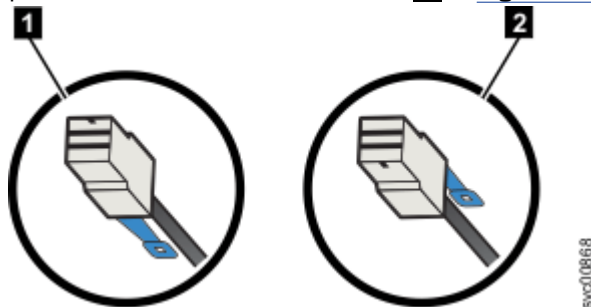

Figure 61. SAS cable connector orientation
- For Storwize V5000E control enclosures (and 2072-24F or 2072-12F expansion enclosures), the blue pull tab must be below the cable (1 in Figure 61 on page 71).
- For 2072-92F expansion enclosures, the blue pull tab must be above the connector (2 in Figure 61 on page 71).